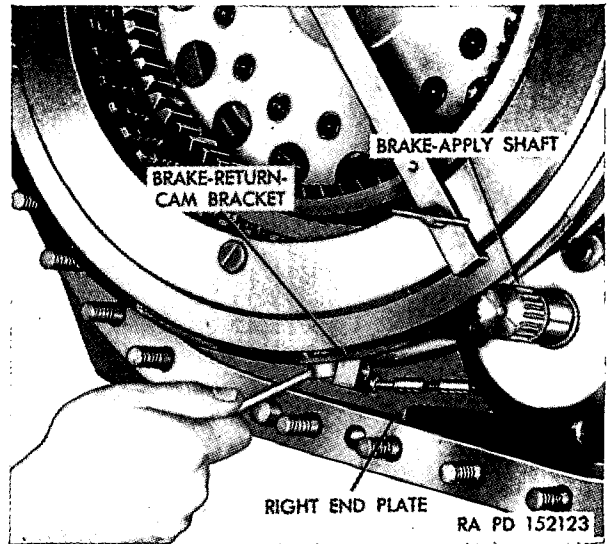

Figure 384. Installing brake-return-cam bracket assembly.
- (11) Install the brake-lubrication valve and brake-return-cam bracket assembly (fig. 384). Secure it to the brake-apply-cam-rotating ring with one $\frac{5}{16}$ -inch bolt torqued 17 to 20 pound-feet. Using a screwdriver, install the brake-return-cam spring between the brake-shaft bracket and brake-return cam bracket (fig. 85).